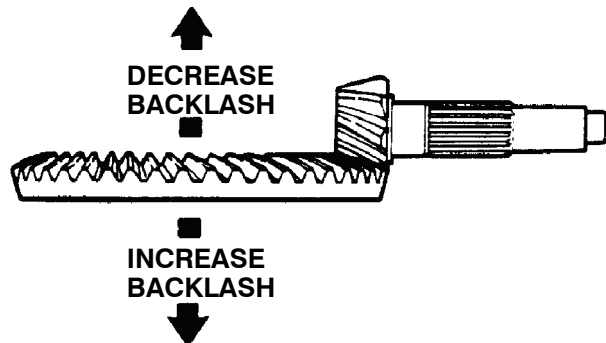

Figure 75.
- (3) For an original gear set, adjust backlash between .010" and .020" as required, by backing off one differential bearing adjusting ring and advancing opposite ring same amount.
- (b) Moving gear away from pinion will increase backlash. Refer to Figure 75.